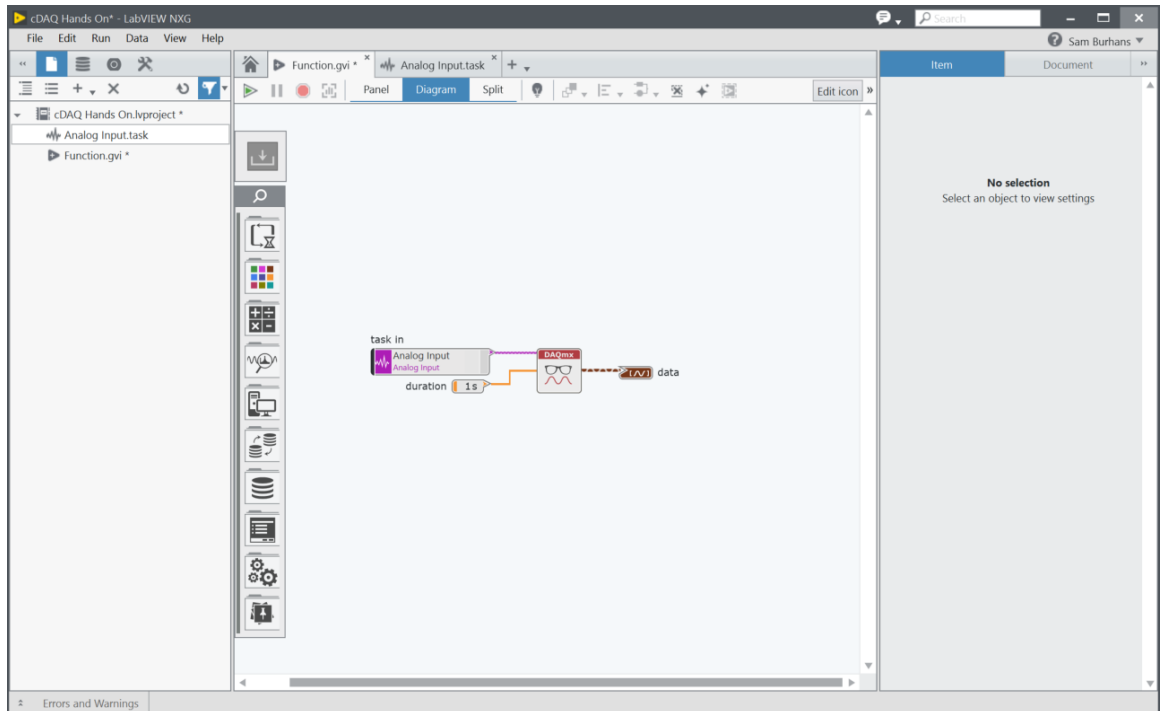

Figure 6-4 Dragging a task onto the block diagram automatically generates all of the code necessary to run that task.
15. Start creating code by dragging **Analog Input.task** from the Project Files onto the block diagram, as shown in Figure 6-4. Note that, along with a constant specifying which task to run, you have also been provided with: